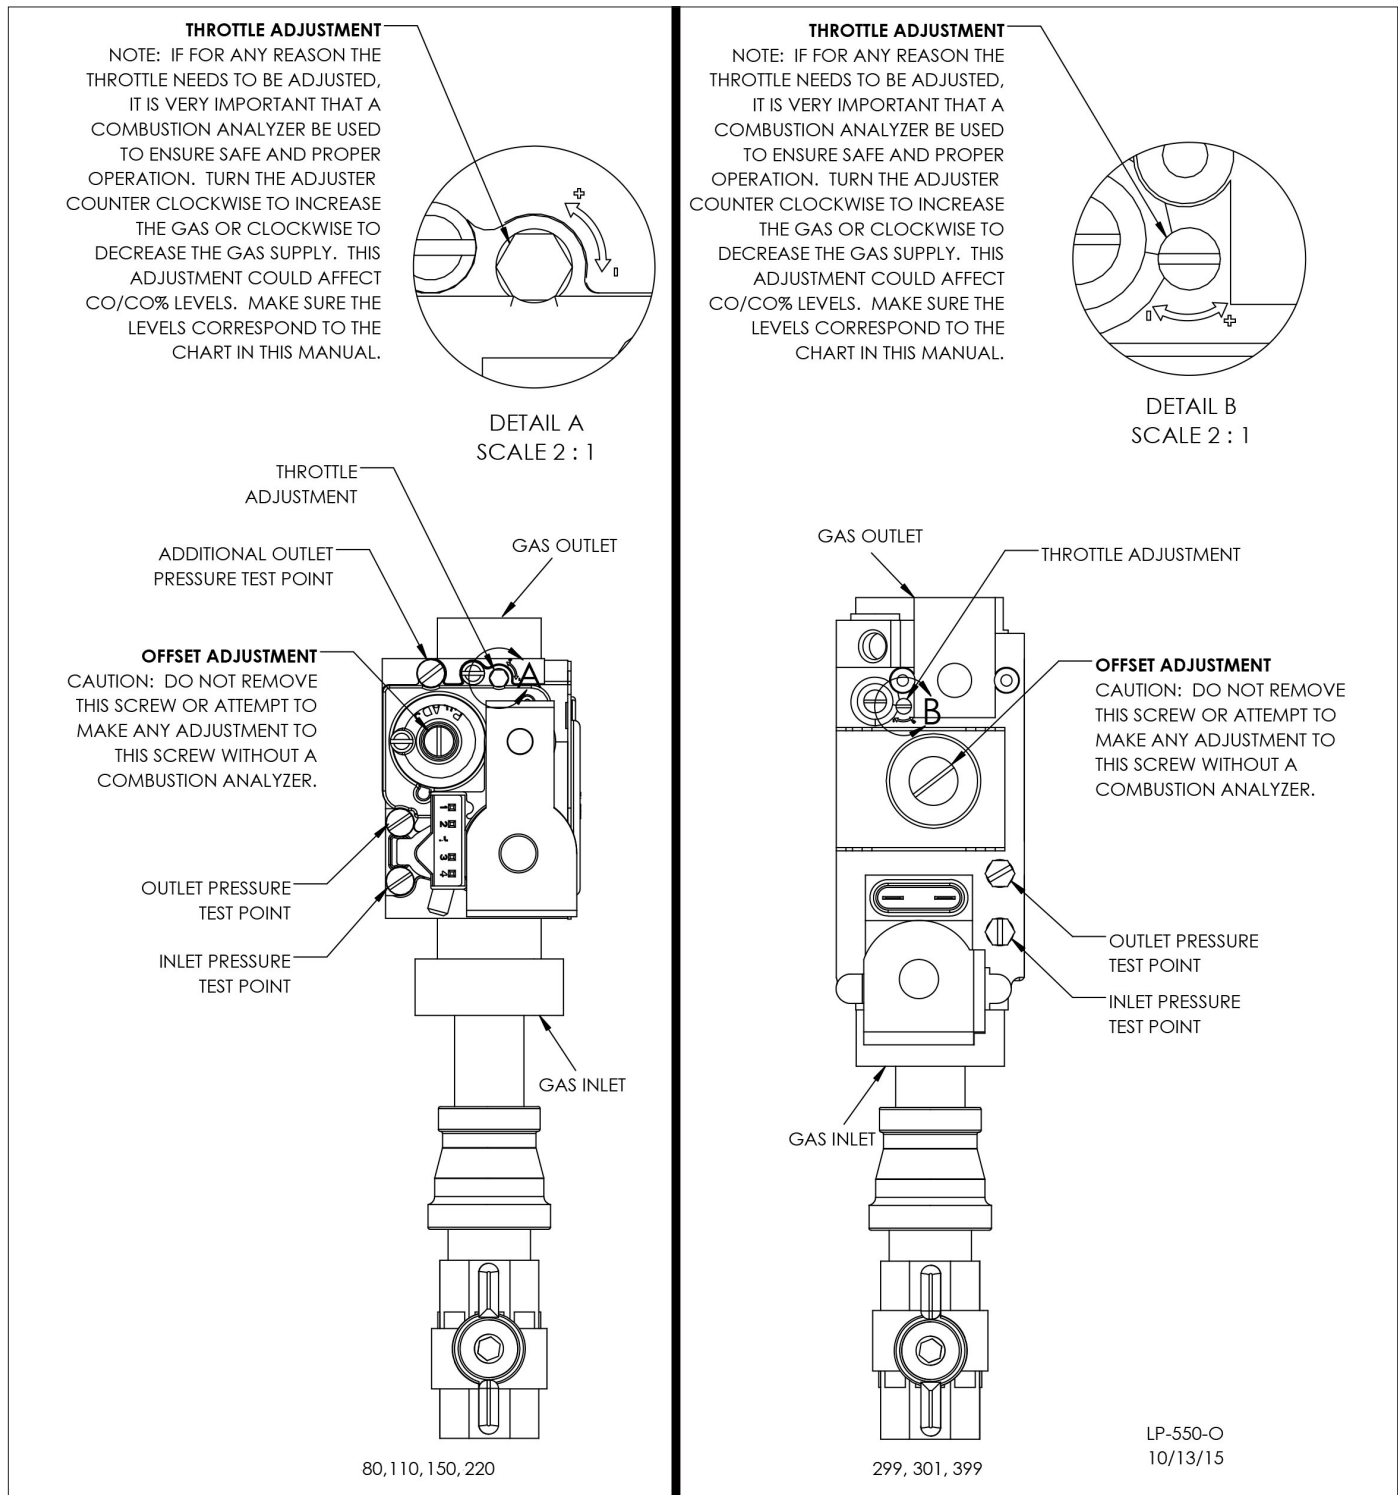

Figure 30 - Gas Valve
2. Loosen the pressure tap with a small screwdriver. Refer to Figure 30 for location.
3. Each unit is equipped with a needle valve that will accept a 5/16 ID hose to connect to a digital manometer or liquid gauge to measure incoming pressure from 0-35" w.c. See Figure 30.